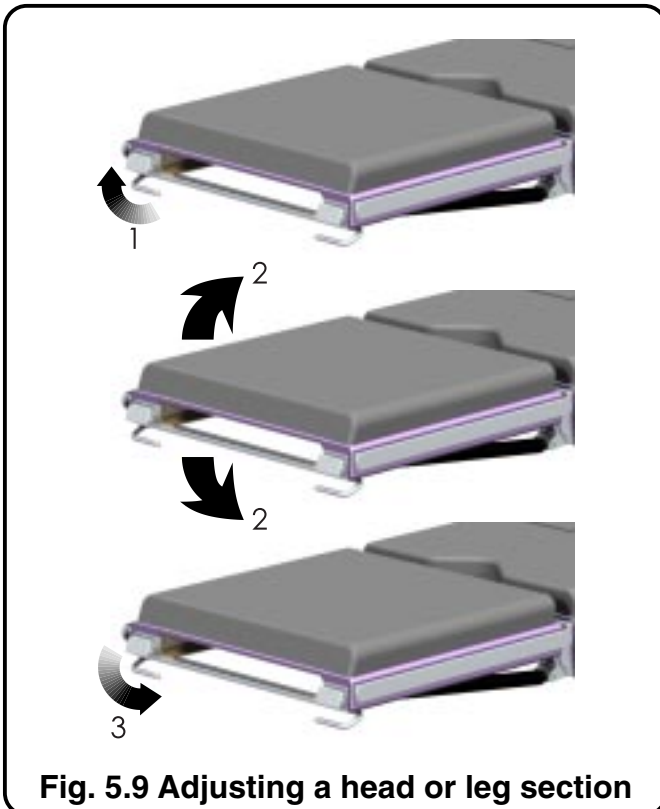

Fig. 5.9 Adjusting a head or leg section
To adjust either section (having noted the warnings at the beginning of section 5.2) grasp the end of the section on both sides with thumbs up and the finger tips resting on the release bar (items 14 or 16, Fig. 2.1) underneath the section. Whilst supporting the section in place (it may move when the release bar is raised), gently lift the release bar with the finger tips until the section is free to move up or down (see 1, Fig. 5.9).
When raising the section the gas springs will assist movement, when lowering gentle pressure may be required to overcome slight resistance of the gas springs. Adjust the section by rotating it up or down to the required position (see 2, Fig. 5.9). When the correct position has been obtained lower the release bar. The section is now locked in place automatically by the gas springs (see 3, Fig. 5.9).